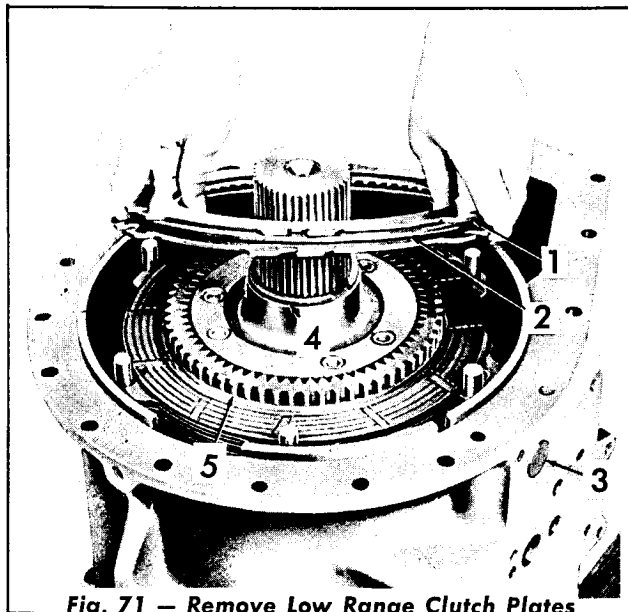

Fig. 71 — Remove Low Range Clutch Plates
9. Remove the two external and the one internal splined low range clutch plates (Fig. 71). Remove the clutch anchor pin. Remove the snap ring. Remove the low range ring gear.